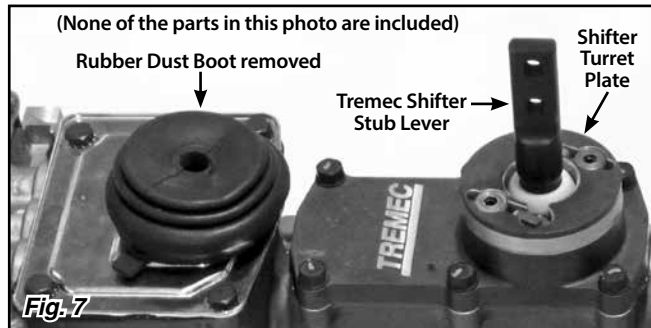

Fig. 7
Step 4: Make sure that the transmission is in Neutral. Remove the existing shifter lever (if installed). Remove the rubber dust boot from the top of the shifter turret plate on the transmission, and from the Tremec shifter stub lever. Set the boot aside. **Fig. 7**